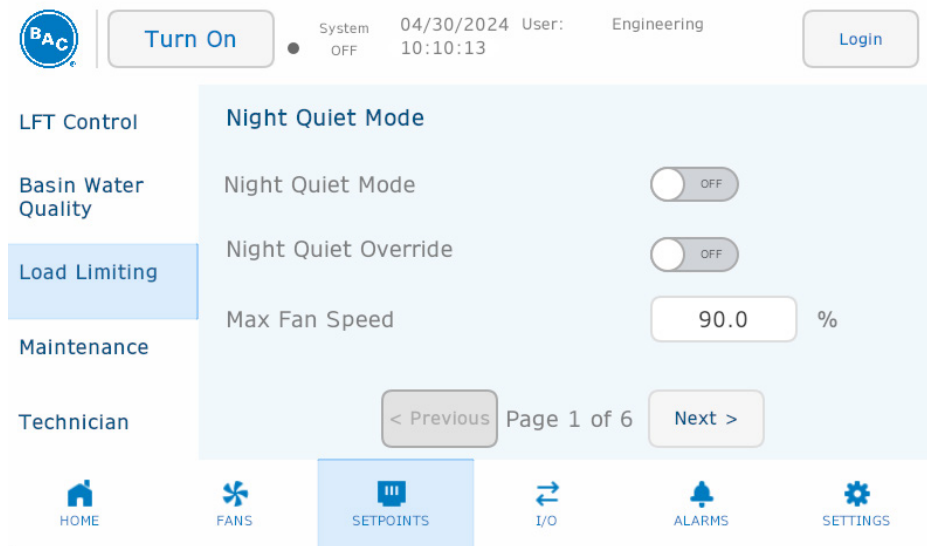
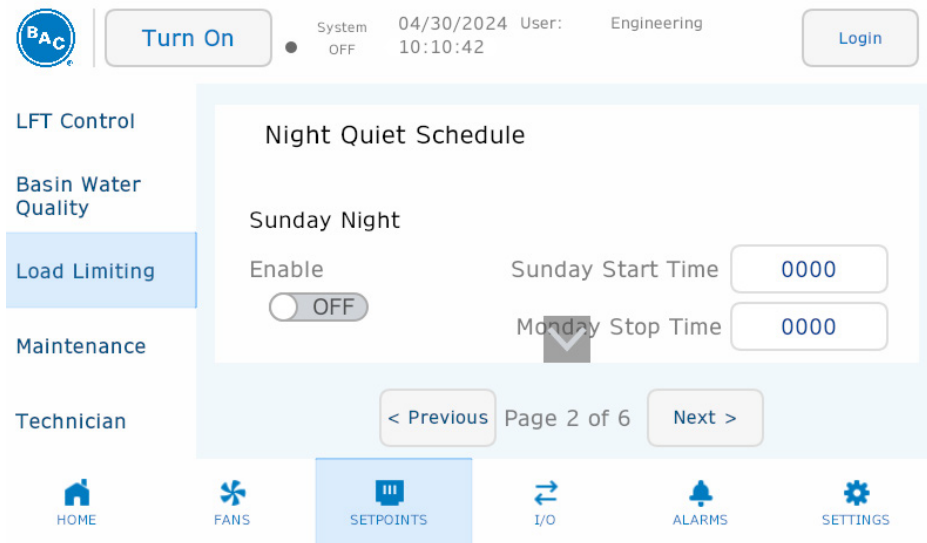

Figure 61. Setpoints Menu, Load Limiting Page 1 of 6
Figure 62. Setpoints Menu, Load Limiting Page 2 of 6
- Night Quiet load limiting mode shown in **Figure 61** and **Figure 62** with parameters listed in **Table 16**.
Night Quiet Enable/Disable	Allows use to either enable or disable the feature. If enabled, the “max fan speed” and “adiabatic switchpoint” parameters will become active during the times set in the schedule shown in Figure 62 .
Night Quiet Override	If enabled, the “max fan speed” and “adiabatic switchpoint” parameters will become active regardless of the schedule shown in Figure 62 . In addition to the on-screen button, the override can also be enabled with the “NightQuietOverride” variable in Table 71